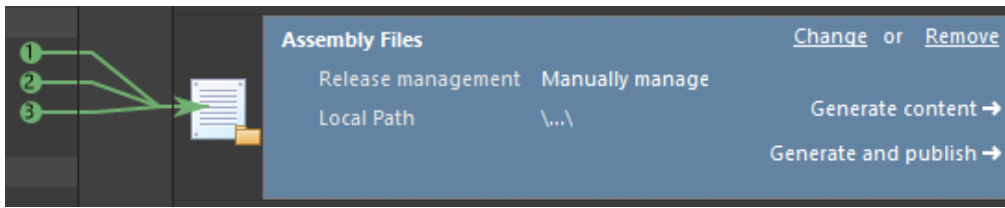

Figure 15. Targeted Output Containers
61. Click on each Output Container, Figure 15. and notice what files will be generated. Note the Assembly Drawing Output Container doesn't have any files pointing at it.